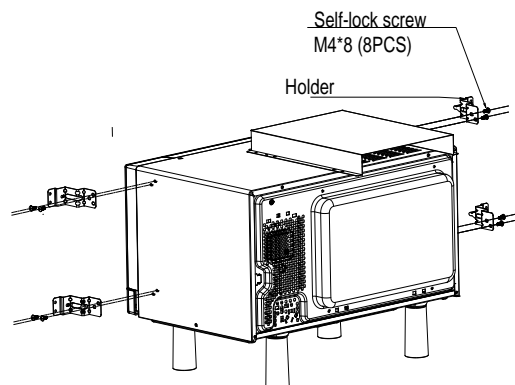

Fig 3
c) Installation of holder, as shown in Fig.3